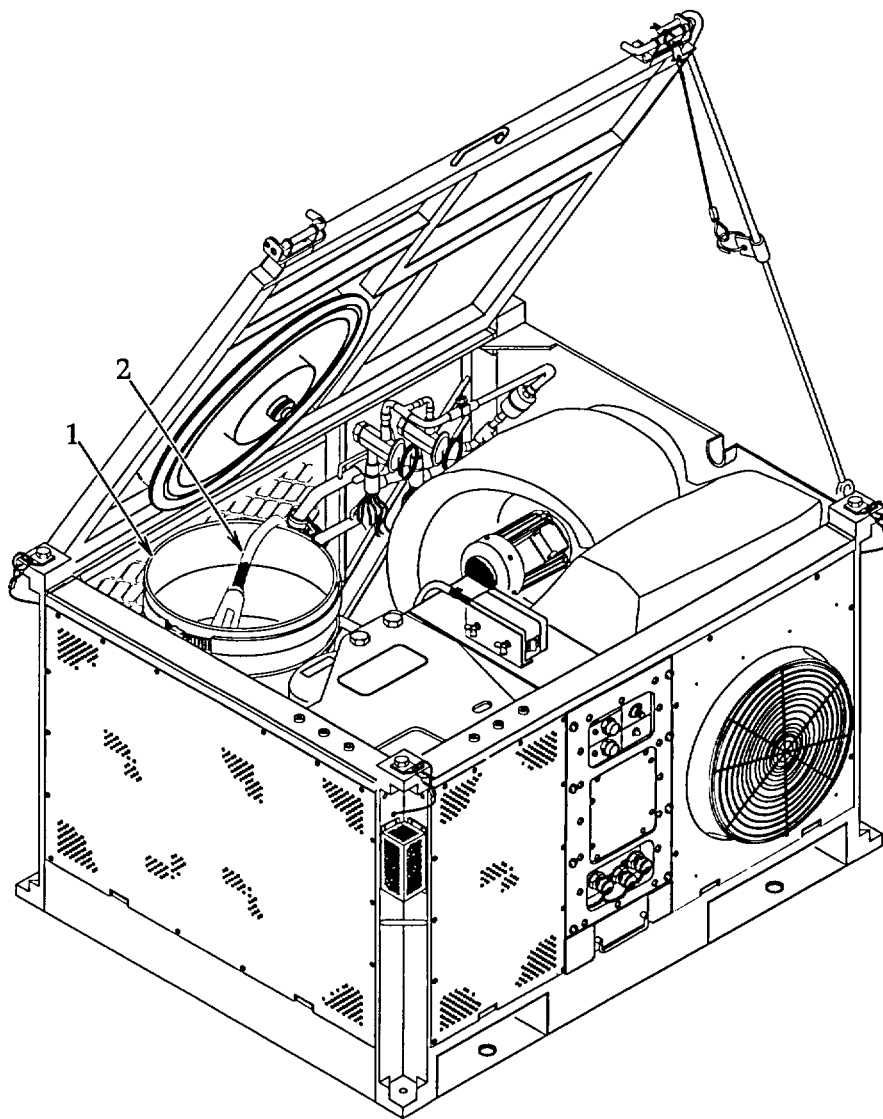

Figure 4-59. Packed Components.
4.60 **PACK COMPONENTS INSIDE FDECU.** See figure 4-59.